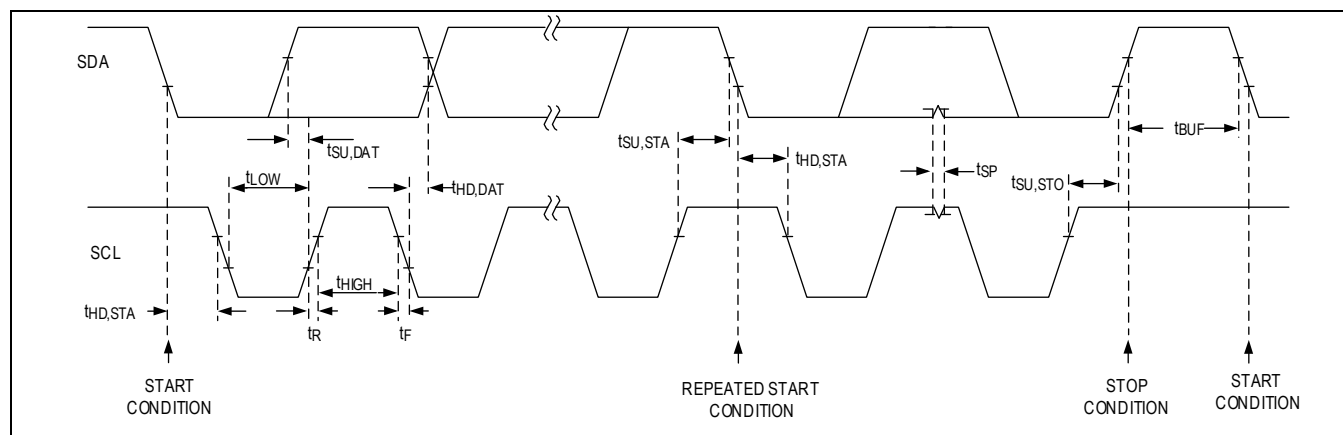

Figure 31. I²C Interface Timing Diagram
The IC features an I²C/SMBus™-compatible, 2-wire serial interface consisting of a serial data line (SDA) and a serial clock line (SCL). SDA and SCL facilitate communication between the IC and the I²C manager at clock rates up to 1MHz. Figure 31 shows the 2-wire interface timing diagram. The manager generates SCL and initiates data transfer on the bus. The I²C manager writes data to the IC by transmitting the proper peripheral address followed by two register address bytes (the most significant byte first) and then the data word. Each transmit sequence is framed by a START (S) or REPEATED START (Sr) condition and a STOP (P) condition. Each word transmitted to the IC is 8 bits long and is followed by an acknowledge clock pulse. A controller reading data from the IC transmits the proper peripheral address followed by a series of nine SCL pulses. The IC transmits data on SDA in sync with the controller-generated SCL pulses. The controller acknowledges receipt of each byte of data. Each read sequence is framed by a START (S) or REPEATED START (Sr) condition, a not-acknowledge, and a STOP (P) condition. SDA operates as both an input and an open-drain output. A pull-up resistor, typically greater than 500Ω, is required on SDA. SCL operates only as an input. A pull-up resistor, typically greater than 500Ω, is required on SCL if there are multiple controllers on the bus, or if the single controller has an open-drain SCL output. Series resistors in line with SDA and SCL are optional. Series resistors protect the digital inputs of the IC from high voltage spikes on the bus lines and minimize crosstalk and undershooting of the bus signals.